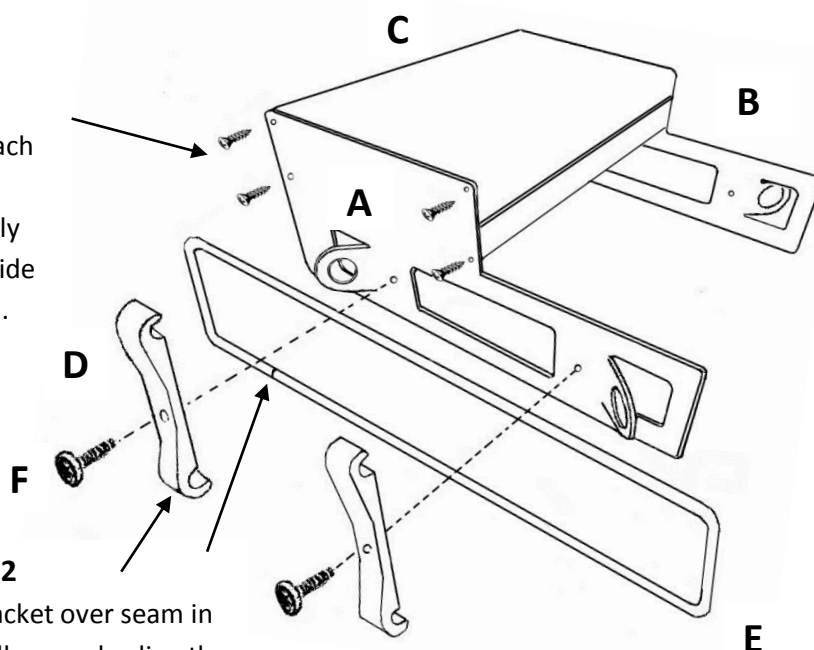

Figure 2
Step 2: Take mounting bracket (D) and place against protective frame (E) and insert (M4) mounting screws (F) through mounting bracket and through the hole in side frame (A) then into the rear threaded mount hole in the radio. Align the seam on the Protective Frame (E) as per figure 2 so it is on the bottom and center the seam of the protective frame in the mounting bracket but leave it hand tight until you also have the front mounting brackets in place. Install the front mounting bracket. Make sure that the seams in the protective frames are aligned in the center of the mounting brackets, (this is best viewed from the underside of the radio) then snug up the screws. Do the same for the opposite side. **Caution: Do not over tighten the mounting screws. Just moderate tightening is required. The tapped holes in the radio can be stripped if overtightened.**